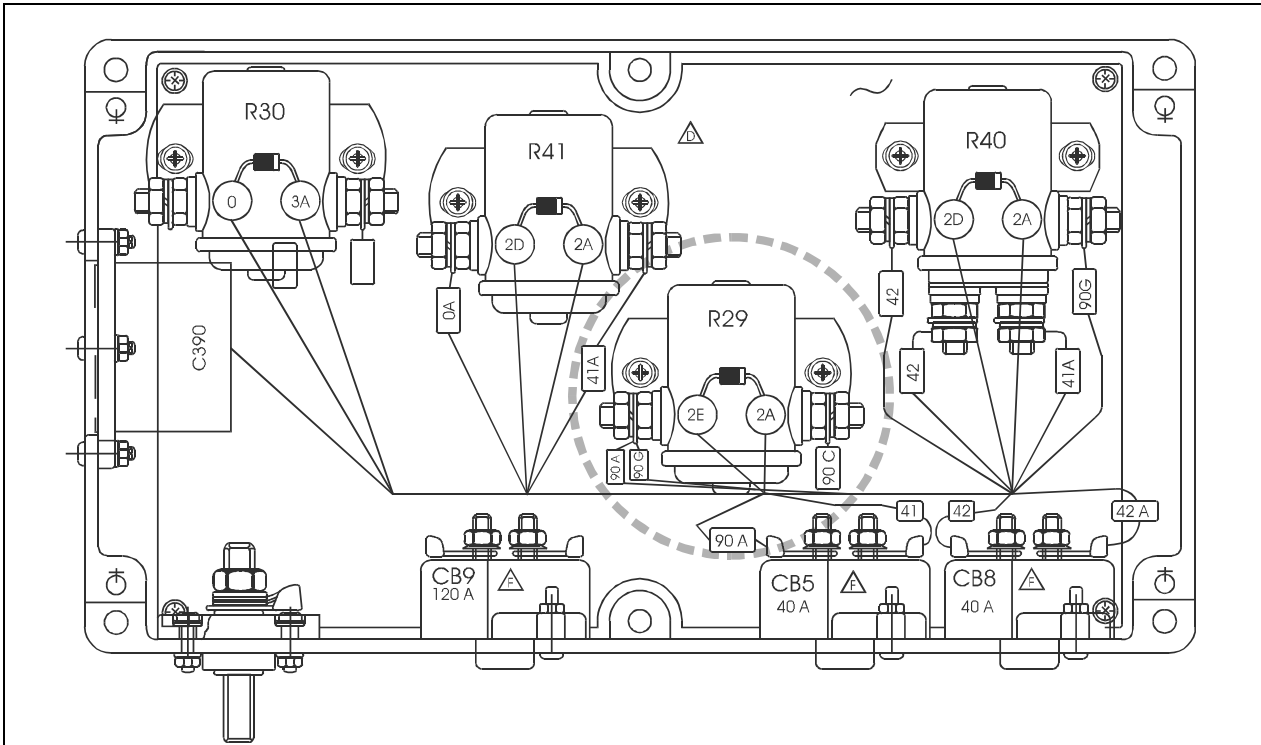

**Figure 1:** Condenser compartment door typical location.
1. Open the condenser compartment door (see figure 1). Locate the white junction box of the A/C. Remove the box lid;